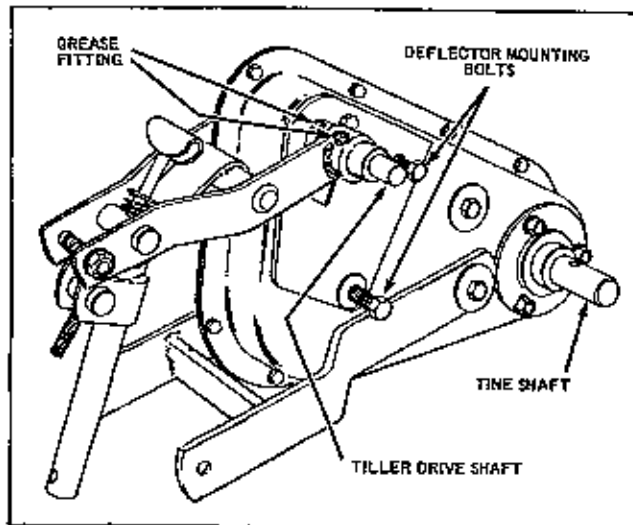
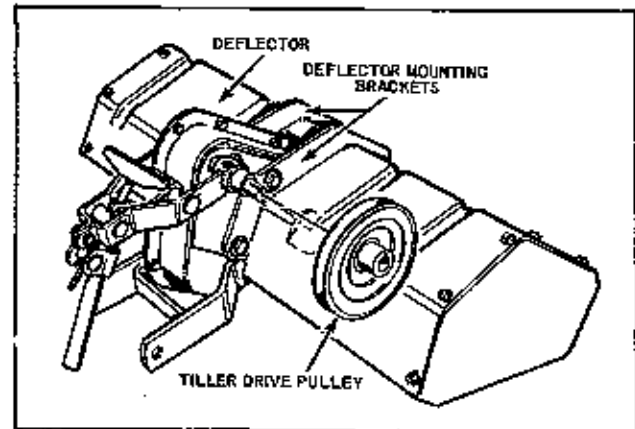

FIGURE 1
FIGURE 3
2. To attach the deflector assembly to the chain guard assembly; remove 2 mounting bolts from each side of the chain guard as shown in Figures 1 & 2. Mount the deflector so that the holes in the mounting brackets line up with the holes in the chain guard assembly as shown in Figure 3, and replace the mounting bolts in their original holes. Tighten the bolts securely.
5. Assemble the tiller drive pulley to the tiller drive shaft as shown in Figure 3. The pulley is held in place by a key and set screw and is to be mounted with the hub of the pulley facing away from the chain guard.
The tiller is lubricated through 2 grease fittings. One fitting is located on the tiller drive shaft housing and the other is located on the right hand side of the chain guard. See Figures 1 & 2. Lubricate these fittings every 3 hours of operation with a good grade of general purpose automotive type grease loaded in a standard grease gun. Be certain to wipe any dirt from the fittings before applying the grease gun. Failure to clean the grease fittings will result in grit being forced into the bearing surfaces along with the grease. Also apply a few drops of lubricating oil to the moving linkages of the tiller drive assembly from time to time.